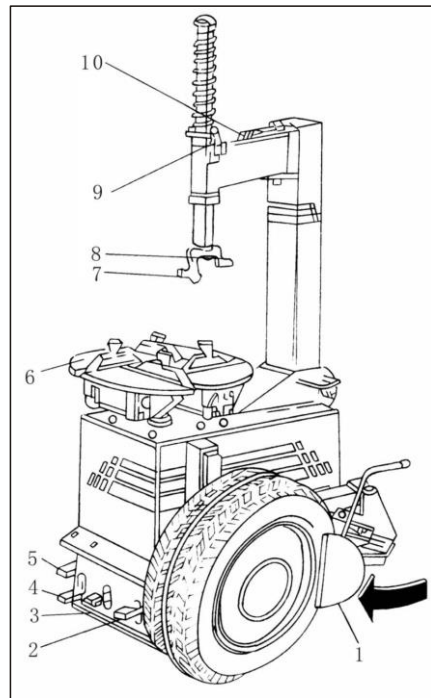
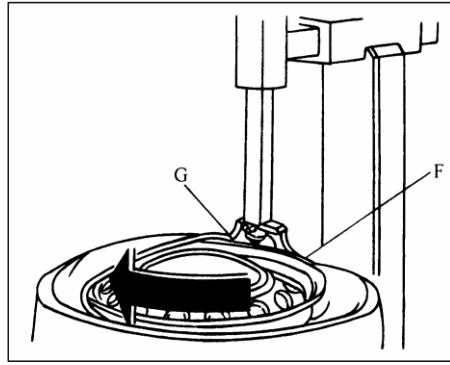

Figure 4-67 Remove Tire Using Tire Changer (I)
Figure 4-70 Fix Tires
- (1) Fully deflate the tire.
- (2) Loosen the connection between tire and wheel rim on tire changer, rotate the wheel and press it repeatedly, and then turn the wheel over so as to loosen another side, as shown in Figure 4-67.
- (3) Remove the balancing weight from the wheel rim.
- (4) Place the wheel rim in the working disc 6 and make the convex of wheel rim face upwards (as shown in Figure 4-67), press it lightly so as to keep it flat, and then operate the pedal so as to get the rim clamped.
- (1) Wipe the bead seat on wheel rim.
- (2) Fix the wheel rim on the working disc 6 (as shown in Figure 4-67), and then lubricate the outside surface of bead with grease.
- (3) Install the tire on wheel rim, and make its left side slip into the drop center in the middle part of wheel rim.
- (4) Adjust the changer 7, 8 to suitable location, lock the lifting rod, and ensure that the right-side tire edge which is outside the drop center of wheel rim is placed above the end G and below end F, as shown in Figure 4-70.